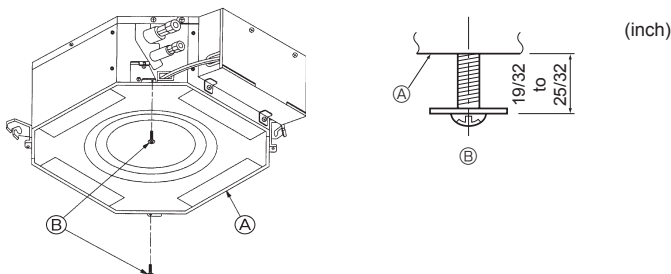

Fig. 7-5
7.3.1. Preparations (Fig. 7-5)